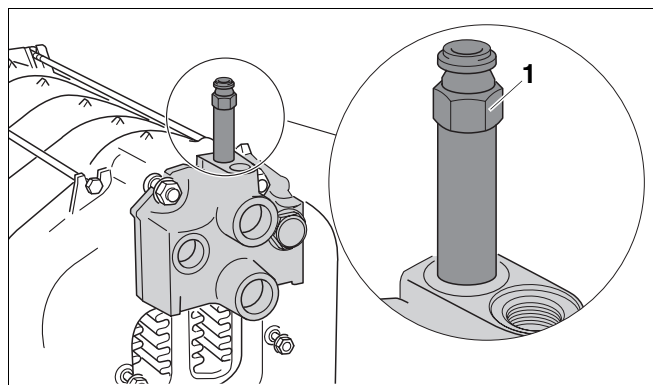

Fig. 22 Sealing the sensor well
- Close front and back connections (fit vent to the Rp 3/4 connection block (→ Fig. 22)).